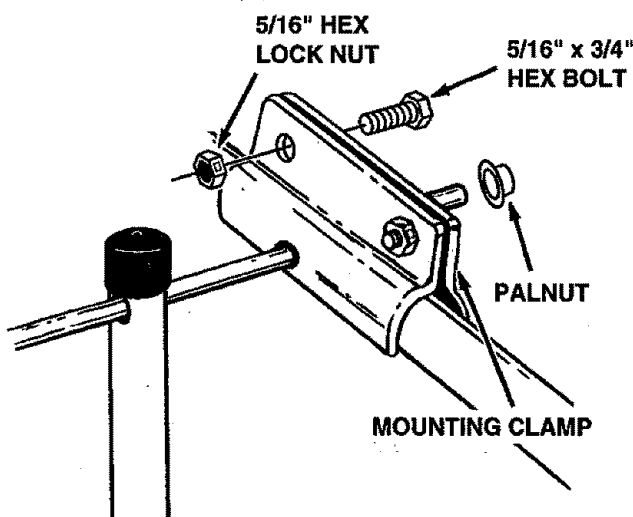

FIGURE 20
- Assemble the two remaining hopper mount clamps onto the pivot rod on the outside of the bag. Fasten them to the inside clamps using four 5/16" x 3/4" hex bolts and 5/16" hex lock nuts. Tighten securely. See figure 20.
- Assemble two palnuts by lightly tapping them onto the ends of the pivot rod with a hammer. See figure 20.